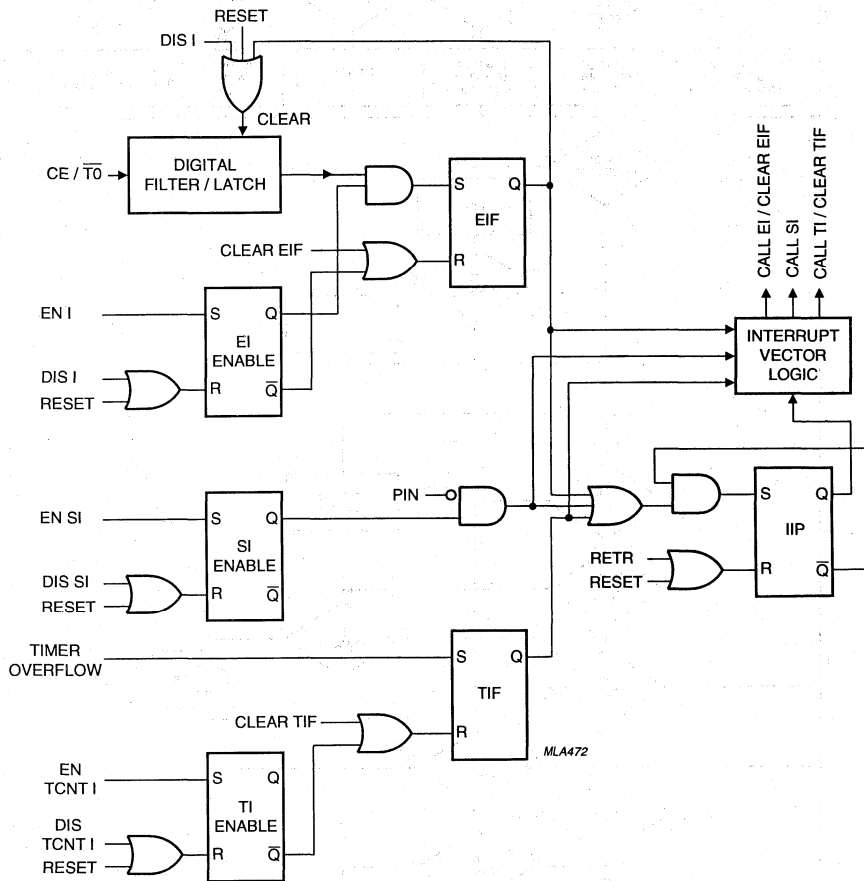

Fig.7 Simplified interrupt logic schematic (the R input overrules the S input for all flags).
An interrupt request is only sensed if the corresponding enable flag is set (see Fig.7). When the request is honoured, the contents of the Program Counter and bits 4, 6 and 7 of the Program Status Word are saved on the Program Counter stack. The Program Counter is loaded with the appropriate interrupt vector, thereby indicating the beginning of the interrupt routine. Since the Accumulator is not automatically saved, it must be saved and restored by user software. The interrupt routine must be terminated by the RETR (return and restore) instruction. At least one instruction of the main program will then be executed before another interrupt routine is entered. To avoid erroneous real-time programs, a few words of caution:
- Subroutines and nested subroutines called from the interrupt routine must all end with RET since RETR clears the Interrupt In Progress flag (IIP), as a side-effect (see Figs 7 and 8). Further pending interrupts would then interfere with the interrupt routine in progress.
A LOW-to-HIGH transition on the  $\overline{CE/T0}$  pin is latched in the digital filter/latch if the HIGH state exceeds 7 clock periods after a LOW state of more than 4 clock periods. If the external interrupt is enabled the External Interrupt Flag (EIF) is also asserted, thus constituting a valid external interrupt request. As soon as the IIP is clear, indicating that no interrupt routine is in progress, the external interrupt is invoked by a forced CALL to location 3. The EIF is simultaneously cleared (see Figs 7 and 8). The interrupt
If the timer/event counter interrupt is enabled, a timer/event counter 1 overflow sets the Timer Interrupt Flag (TIF). As soon as IIP is clear, meaning that no interrupt routine is in progress, the timer/event counter interrupt routine is invoked by a forced CALL to program memory location 7. The TIF is simultaneously cleared (see Figs 7 and 8). Execution of a DIS TCNT1 (disable timer/event counter interrupt) instruction cancels a stored interrupt request by clearing TIF.